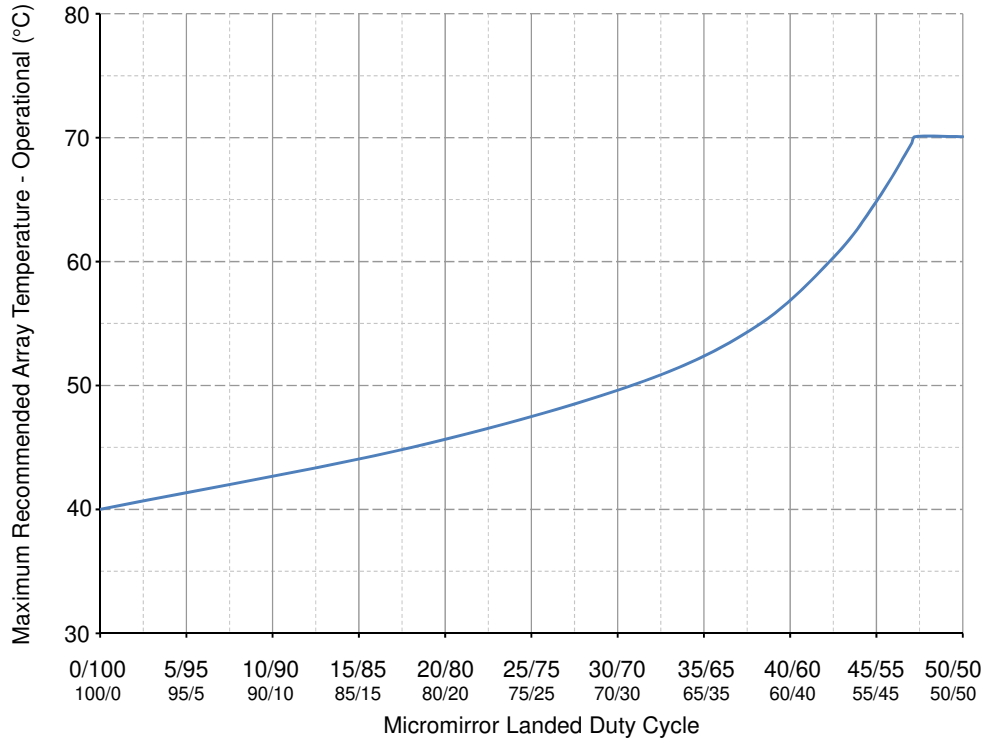

图 5-1. Maximum Recommended Array Temperature—Derating Curve
- (11) Per 图 5-1, the maximum operational array temperature should be derated based on the micromirror landed duty cycle that the DMD experiences in the end application. Refer to 节 6.8 for a definition of micromirror landed duty cycle.
- (12) Long-term is defined as the usable life of the device.
- (13) Short-term is the total cumulative time over the useful life of the device.